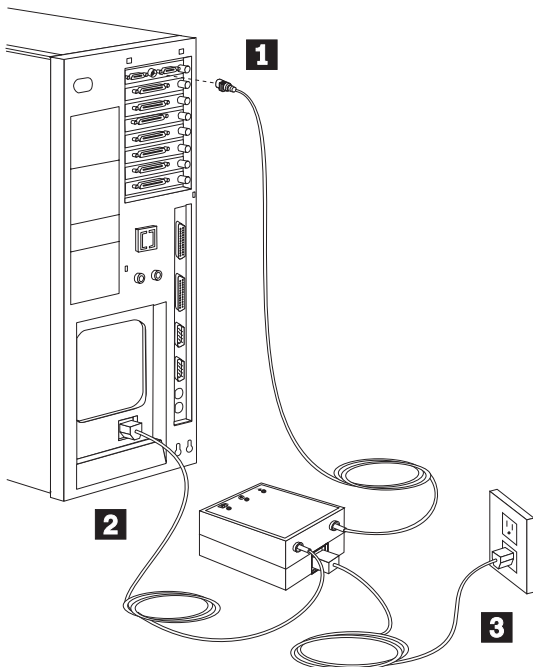

Figure 11. Power Unit Cables
5. Refer to Figure 11 on page 19 and complete the following steps.